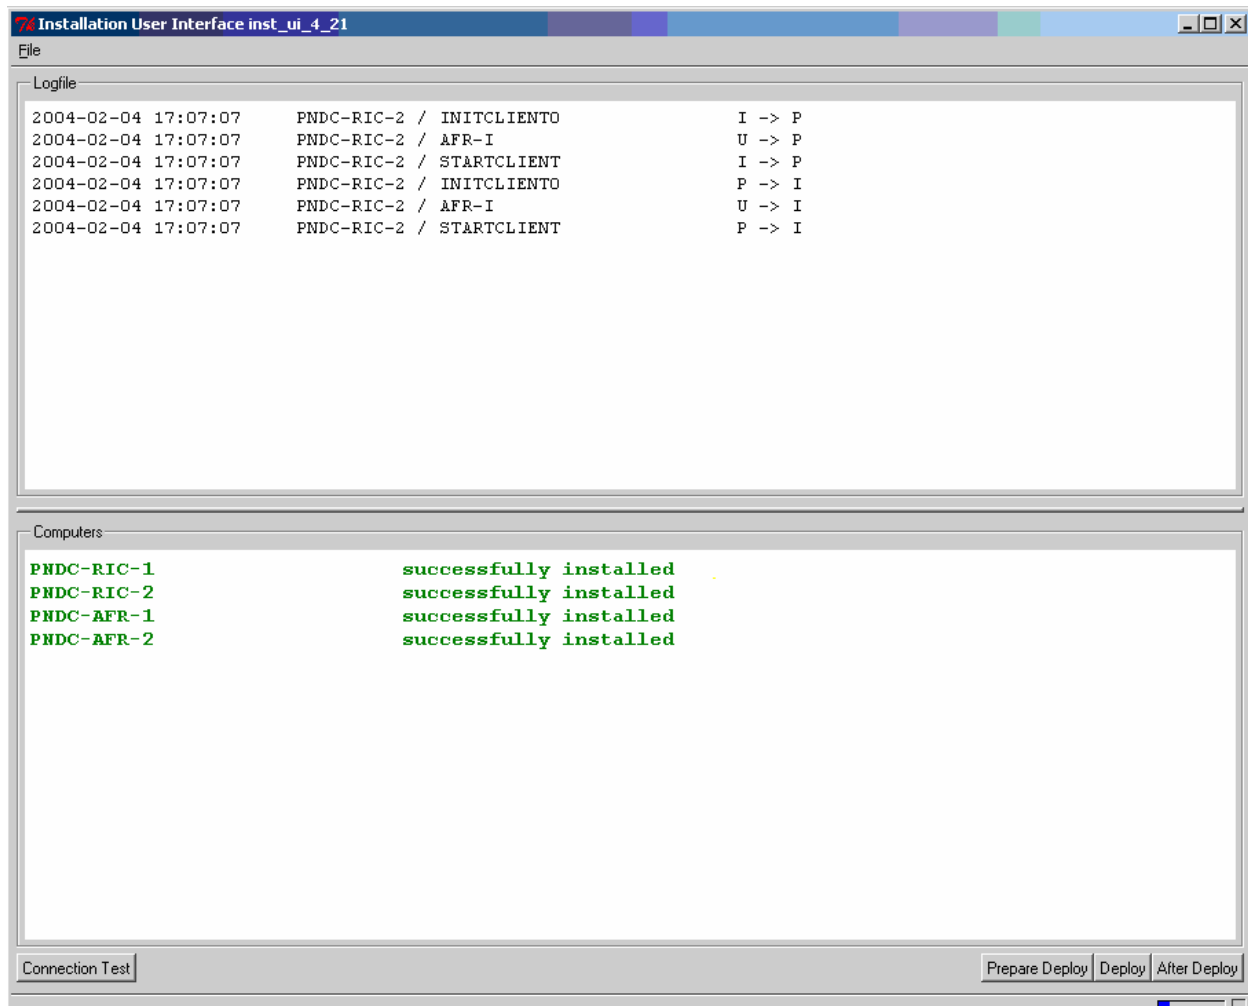

Figure 1-235. Install UI Showing Reinstall Switched off for RIC-2
1. For each reinstalled computer, click its line and type **R**. The reinstall marks will disappear (Figure 1-235).